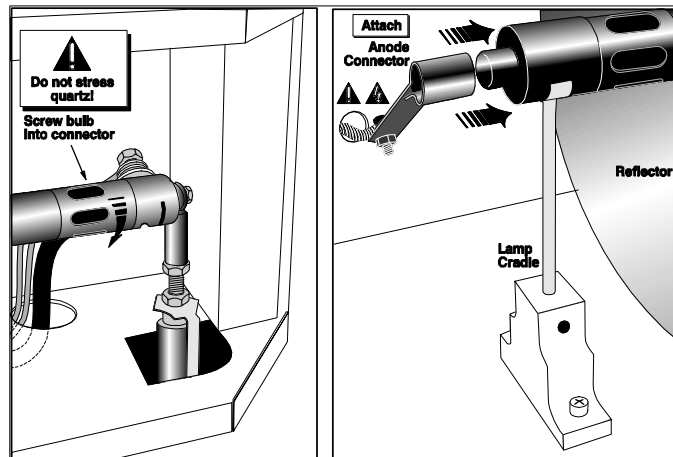

Figure 6-1 Install Bulb
1. With protective clothing and shield on, insert the threaded cathode (–) end of the lamp into the negative lamp connector nut located in the rear of the lamp compartment and screw in fully (**Figure 6-1**, left). Hand-tighten only. **Important!** *Handle by the cathode/anode end shafts only, never the glass. Do not over-tighten. Do not stress the glass.*
2. Rest the anode (+) end of the lamp on the lamp cradle as shown in **Figure 6-1**, right, and slip the positive lamp connector over the bulb end.